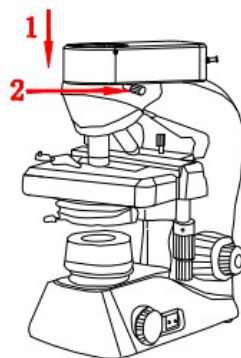

Figure 2
2. Assemble the Digital Camera as shown in figure 2